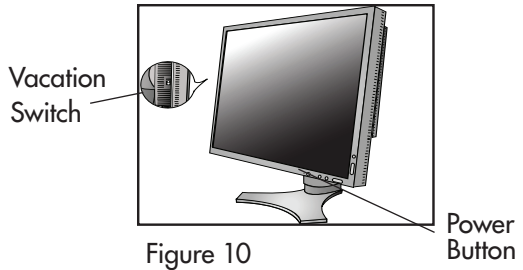

Figure 10
8. The vacation switch on the left side of the monitor must be in the ON position for the monitor to function (Figure 10).